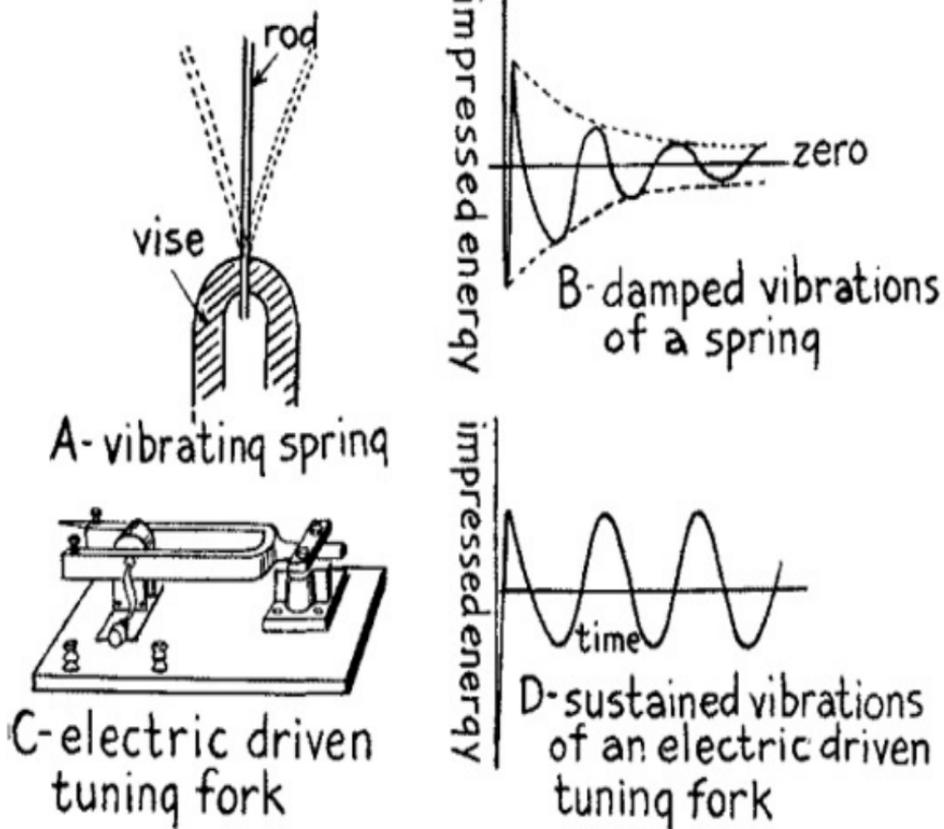

FIG. 34.—Damped and Sustained Mechanical Vibrations.
*Damped and Sustained Mechanical Vibrations.*--If you will place one end of a flat steel spring in a vice and screw it up tight as shown at *A* in *Fig. 34*, and then pull the free end over and let it go it will vibrate to and fro with decreasing amplitude until it comes to rest as shown at *B*. When you pull the spring over you store up energy in it and when you let it go the stored up energy is changed into energy of motion and the spring moves forth and back, or *vibrates* as we call it, until all of its stored up energy is spent.